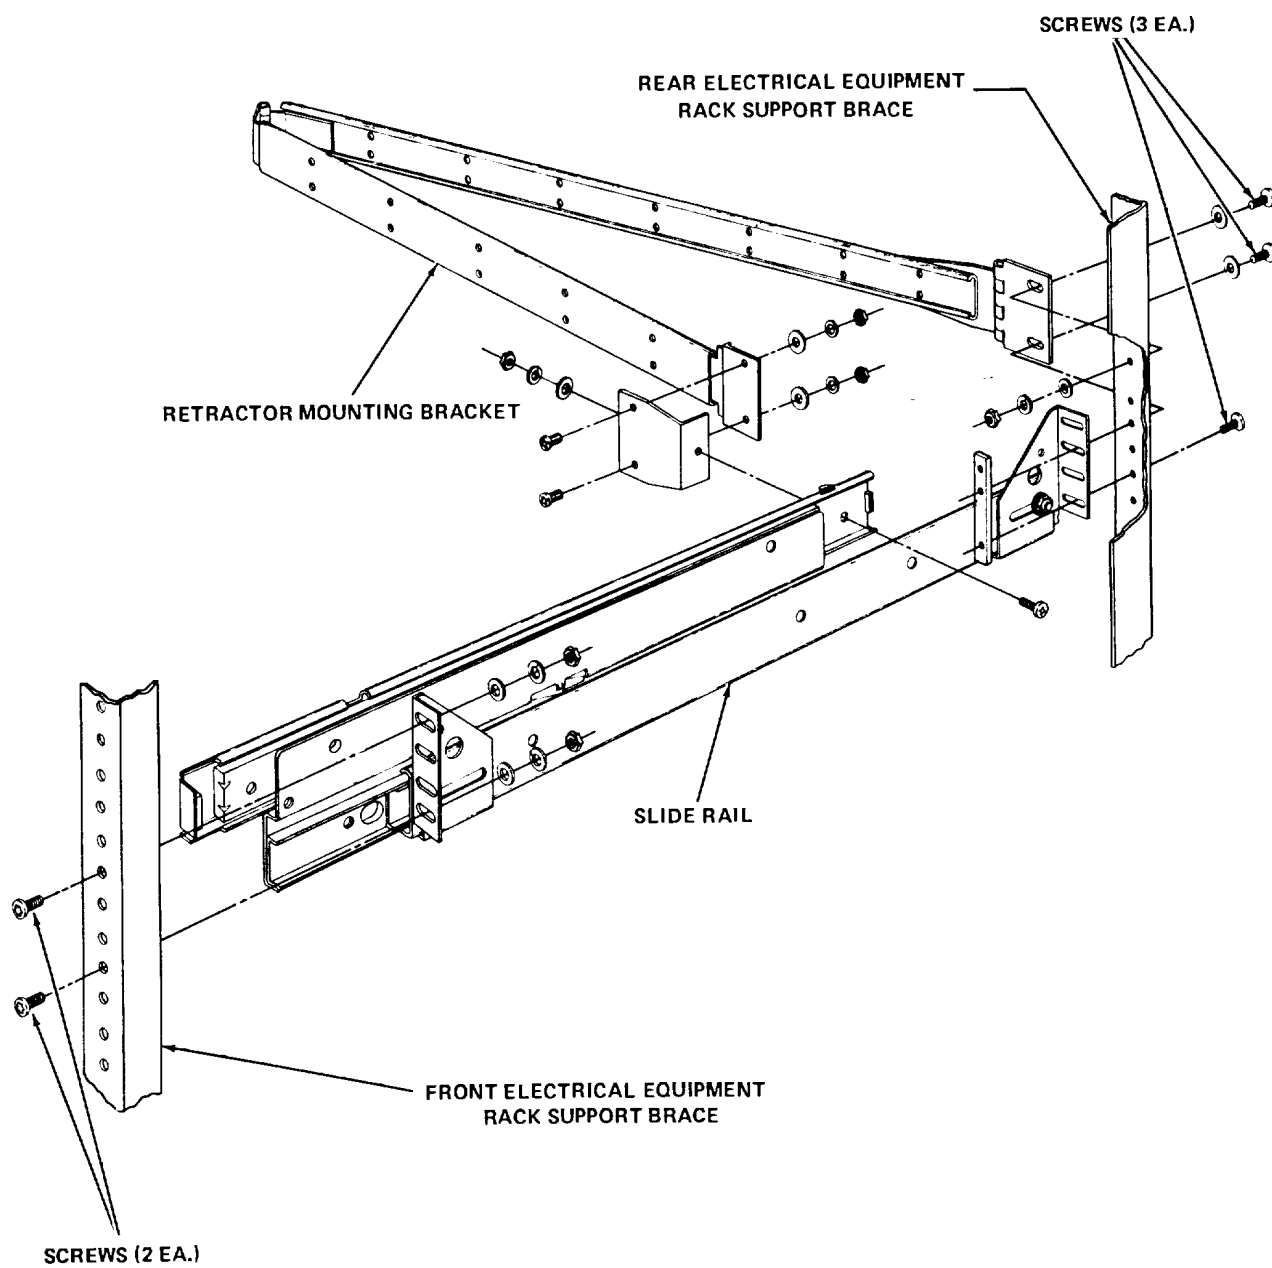

Figure 3-3. Slide Rail Disassembly
- (1) Remove wires from the terminal boards and tag.
- (2) Remove eight screws, nuts and washers holding terminal boards TB1, TB2, TB3, and TB4 in place.
f. Slide Rail and Retractor Mounting Bracket Disassembly. Disassemble the slide rail per the following procedure (refer to figure 3-3).
- (1) Remove the two screws which hold the right slide rail to the front electrical equipment rack support brace.
- (2) Remove the screw which holds the right slide rail and retractor bracket to the retractor mounting bracket.